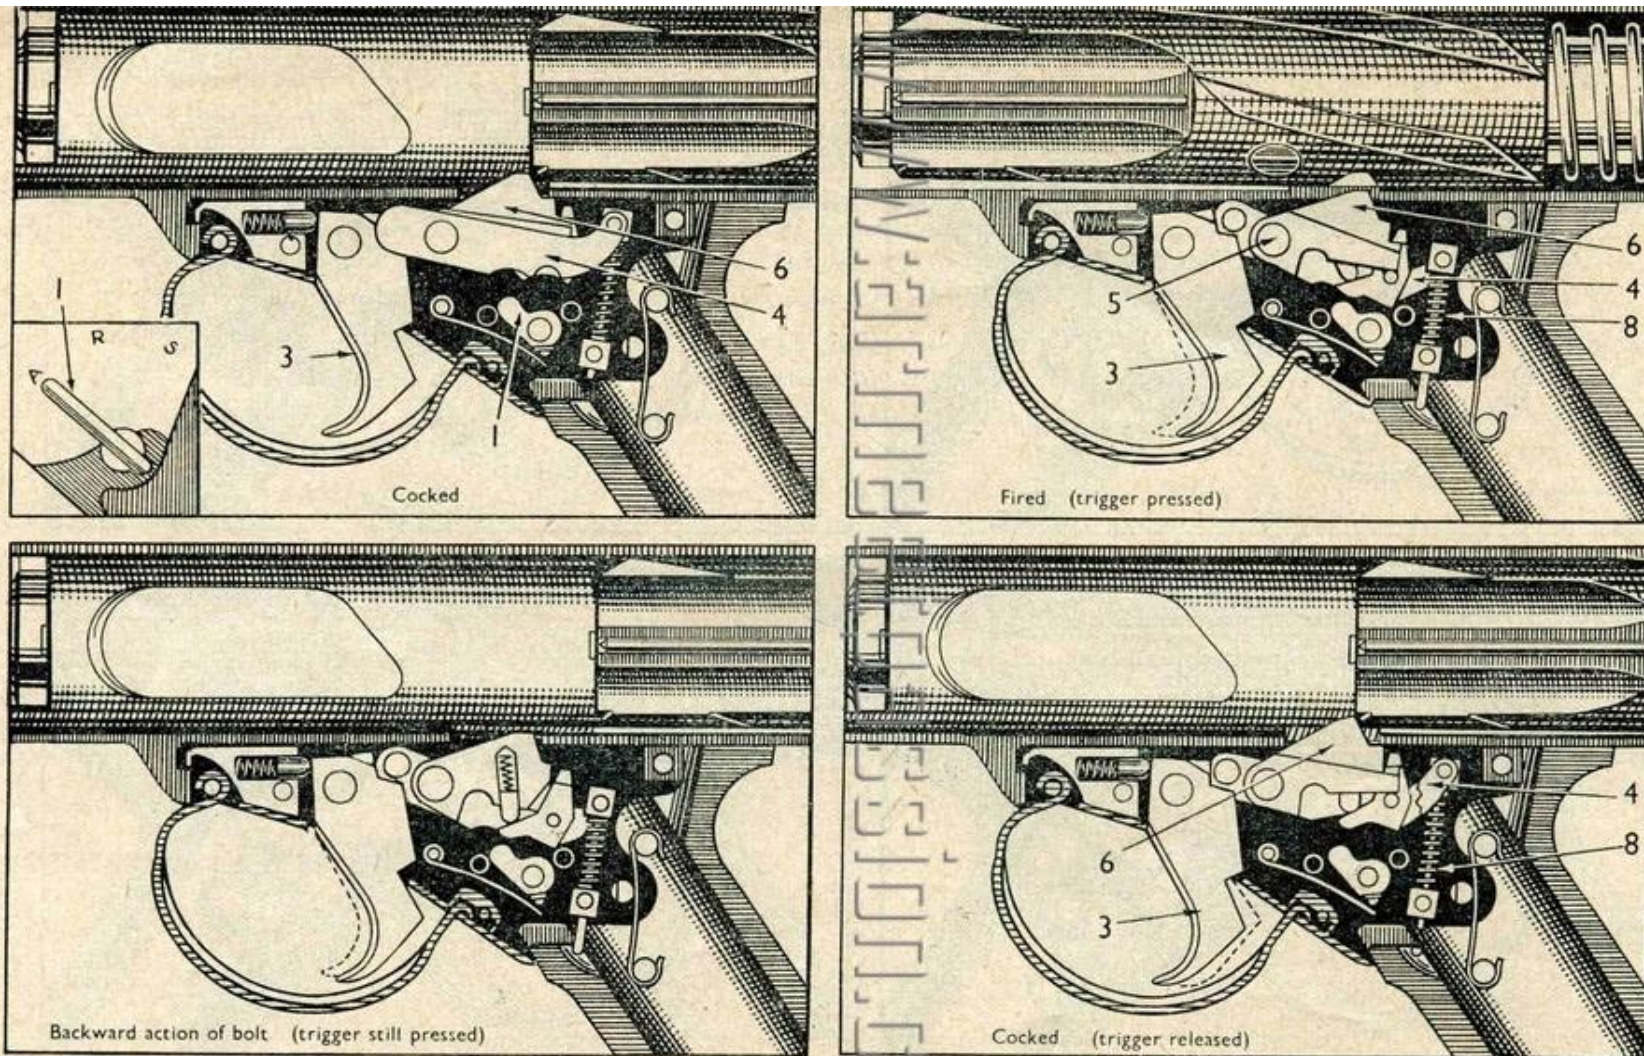

Fig. 6. Action of trigger mechanism (automatic fire)
5.2 AUTOMATIC FIRE (Fig. 6). When with the change lever (1) set at automatic A and the weapon cocked, the trigger is pressed, the projection on the upper part of the trigger lifts the end of the sear cradle (4) rotating it about its axis pin (5). This depresses the sear (6) freeing it from contact with the face of the bent on the bolt, and allowing the bolt to fly forward. The movement of the sear cradle compresses the sear cradle spring (8).